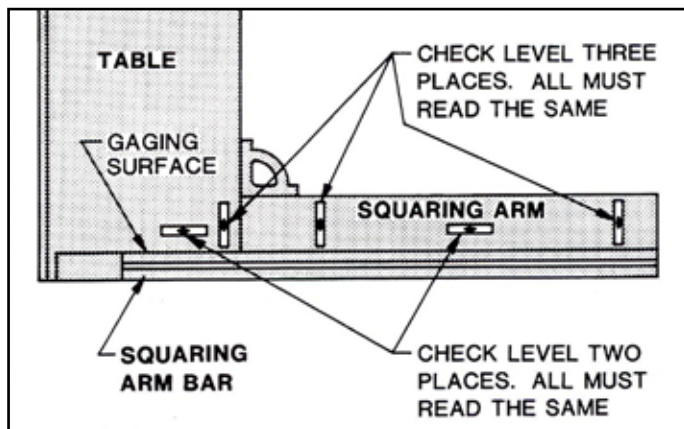

Figure 9-15 - Leveling squaring arm
1. Check the level of squaring arm left-to-right and front-to-back as shown in Figure 9-15. Adjust the level as required.